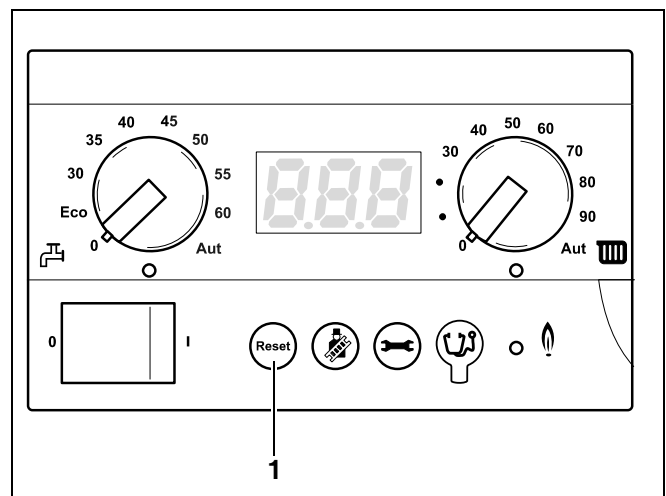

fig. 24 BC10 – "Reset" button
- Press the "Reset" button (fig. 24, **item 1**) for approx. 5 seconds to reset the fault.